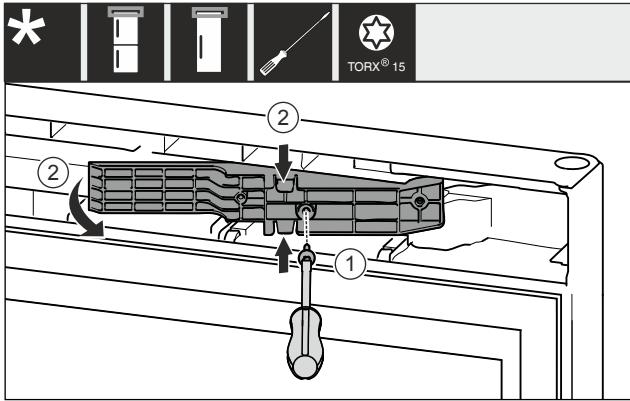

Fig. 12 \*
- ▶ Loosen the screws with the T15 screwdriver. Fig. 12 (1)\*
- ▶ Pull out the adaptor. Fig. 12 (2)\*